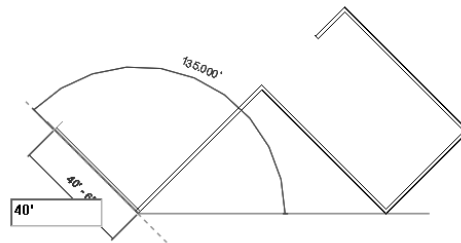

Figure 3-44 Sketching the sixth inclined wall segment
9. Next, create the connected wall segment of 40' length, as shown in Figure 3-44.